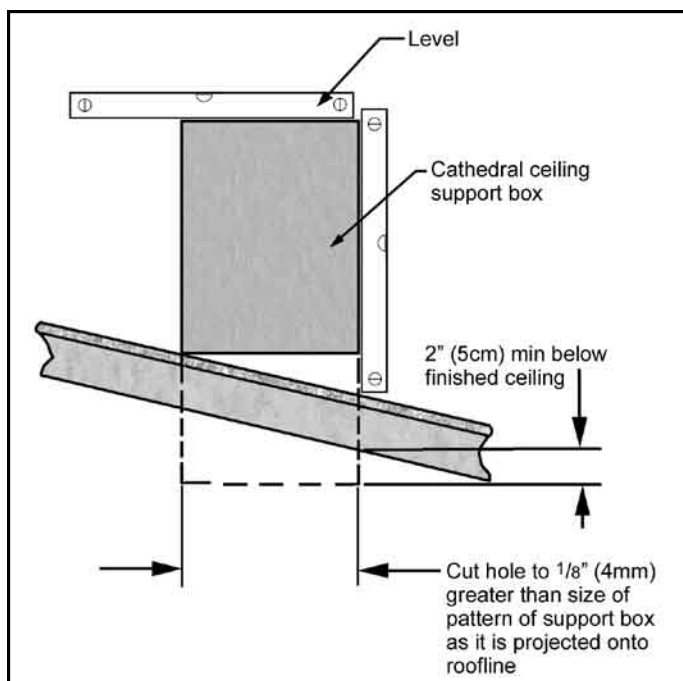

Figure 28: Cathedral Ceiling Support Box Leveling.
- STEP 4.** Lower the "Support Box" through the hole in the roof until the bottom of the "Support Box" protrudes at least 2 inches (5 cm) below the ceiling. Align the "Support Box" both vertically and horizontally with a level as shown in Figure 28. Temporarily tack the "Support Box" in the place through the inside walls and into the roof sheathing.